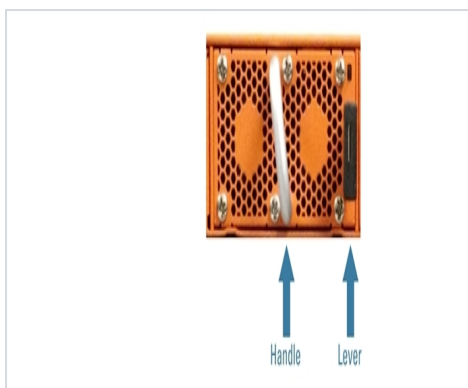

Figure 7: Replacing a Fan (GigaVUE-TA10 Shown)
1. Locate lever and handle as shown in Figure 7: Replacing a Fan \(GigaVUE-TA10 Shown\).